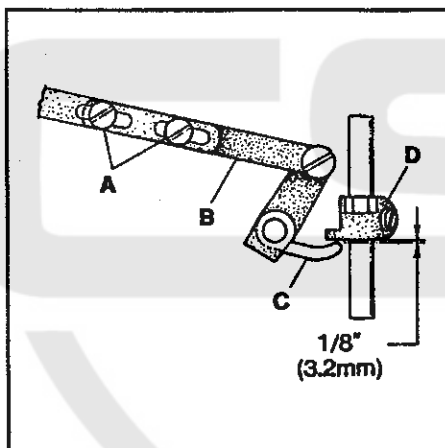

FIG. 21
Replace the presser spring and the presser bar regulating screw. Loosen screws (A, Fig. 21) in lifter lever link assembly (B) and position lever (C) so there is  $1/32"$  (0.8mm) clearance between it and presser bar guide (D) when the feed dogs are below the throat plate.
Make sure the  $1/32"$  (0.8mm) clearance between the presser bar lifter lever and presser bar guide has been maintained. Refer to Fig. 21 if readjustment is necessary.